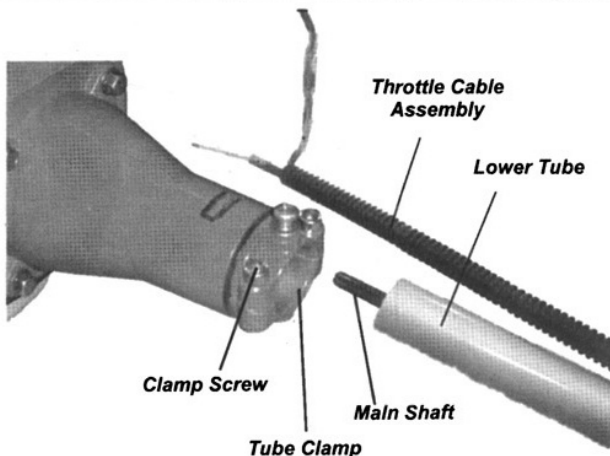

Figure 5
4. Push the lower tube towards the tube clamp and rotate it by hand to check that the mainshaft splines engage the powerhead, See Figure 5.